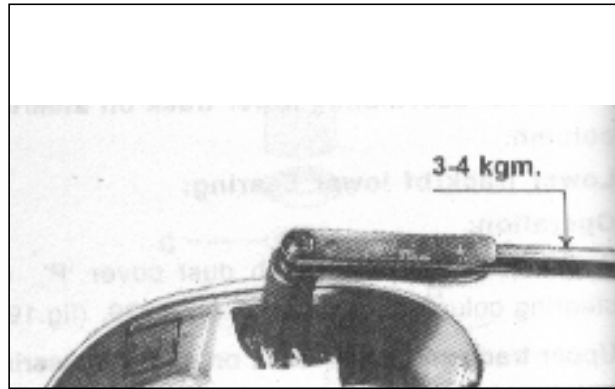

Fig. 196-Tightening of top ring nut
- (c) Place spacer washer 'C' and tighten top ring nut 'D' to torque 3-4 kgm. (fig.196)